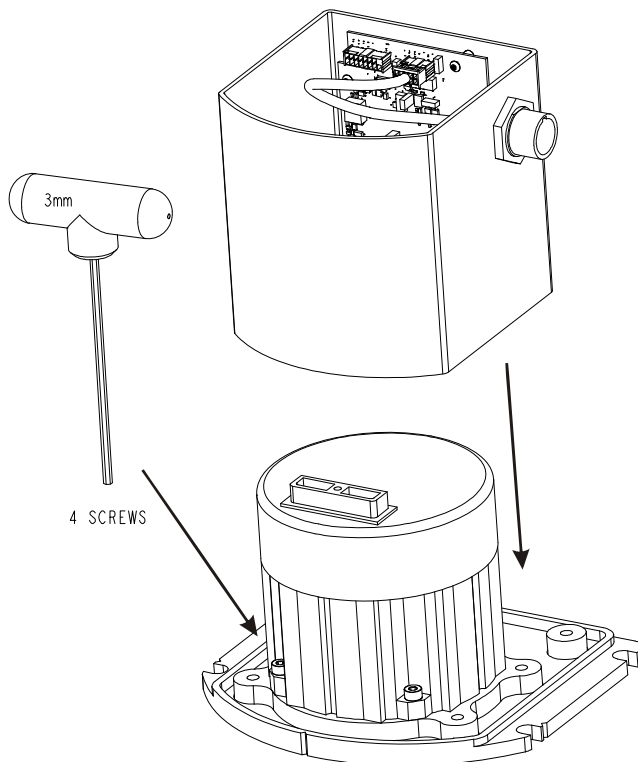

**Figure 42: Lift Top Cover and Tube Body**
4. Lift the tube body away from its base plate and set it aside, as shown in *Figure 42* on page 171.